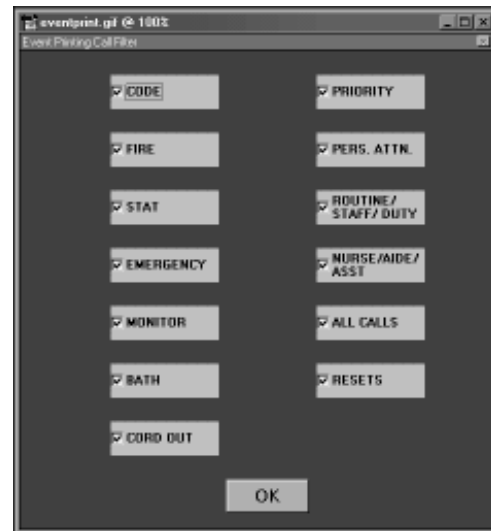

Figure 17: Event Printing Call Filter
6. Refer to *Figure 17* for the EVENT PRINTING CALL FILTER menu that will appear.